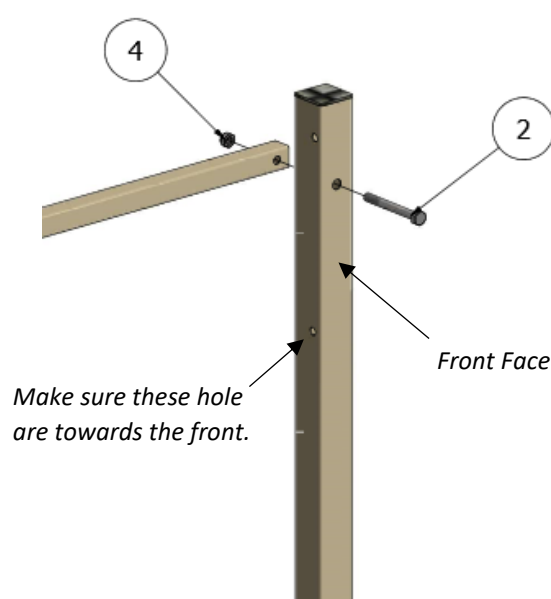
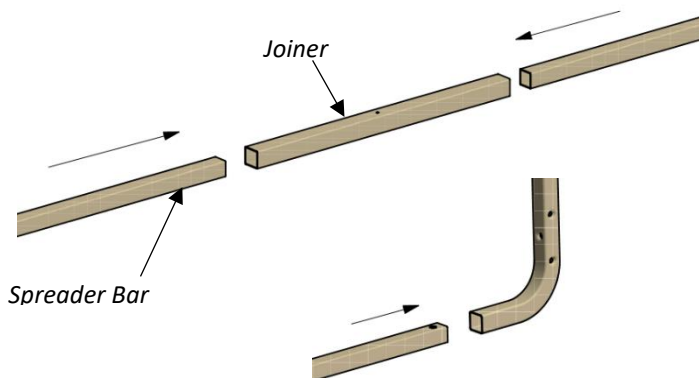

Figure 2 – Bolt Back Bar onto Legs
Figure 5 – Spreader Bar assembly
- Assemble the spreader bar (clotheslines larger than 2400mm) making sure that the plugged ends fare on the end (see Figure 5). Bolt onto the legs as per figure 2. Use Bolt ②, Lock Nut ④.
- Tie the loose end as shown in Figs 5 and 6. Trim the ends of the cord, leaving 100mm to be fed through the hole as shown in Fig 6.